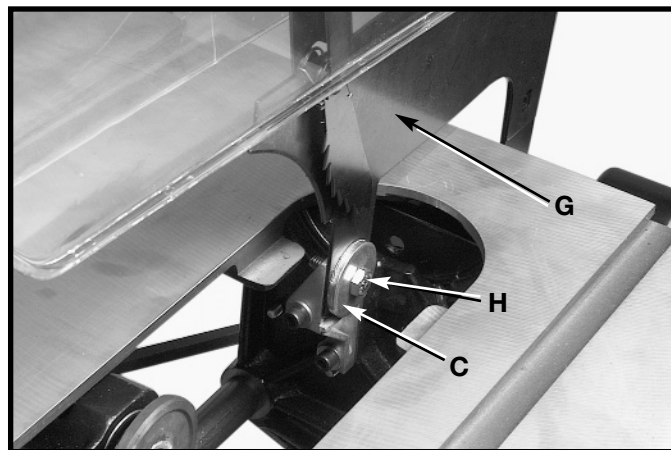

Fig. 19
7. Assemble the blade guard and splitter assembly (G) Fig. 19 between the large washer (C) and the splitter bracket and tighten hex head screw (H) with 12mm wrench.